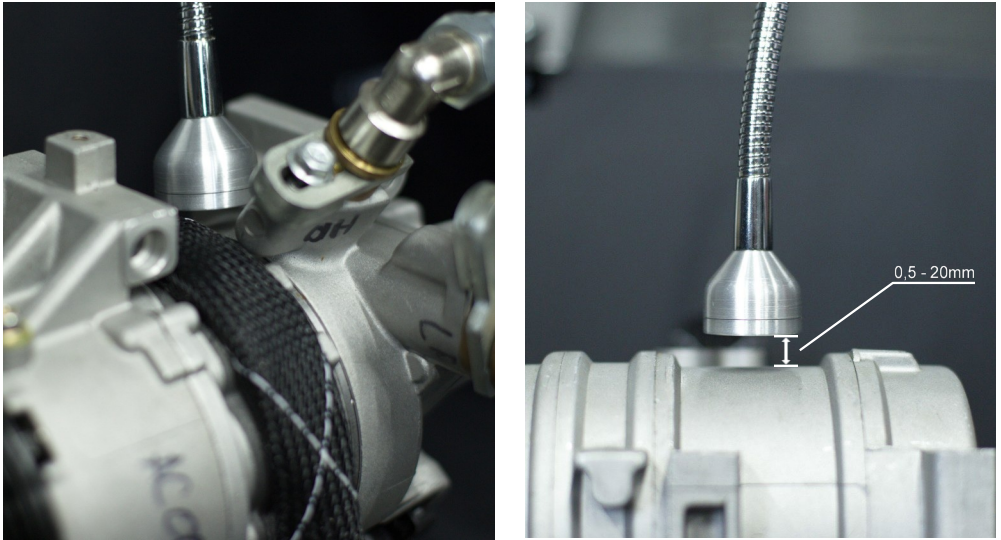

Figure 30. Positioning of a contact-free temperature sensor
7.2. For a test bench with a contact-free sensor. Direct the pressure sensor to the compressor hottest spot which is either the suction side (pistons travel area) or near the HP fitting (Fig.30).